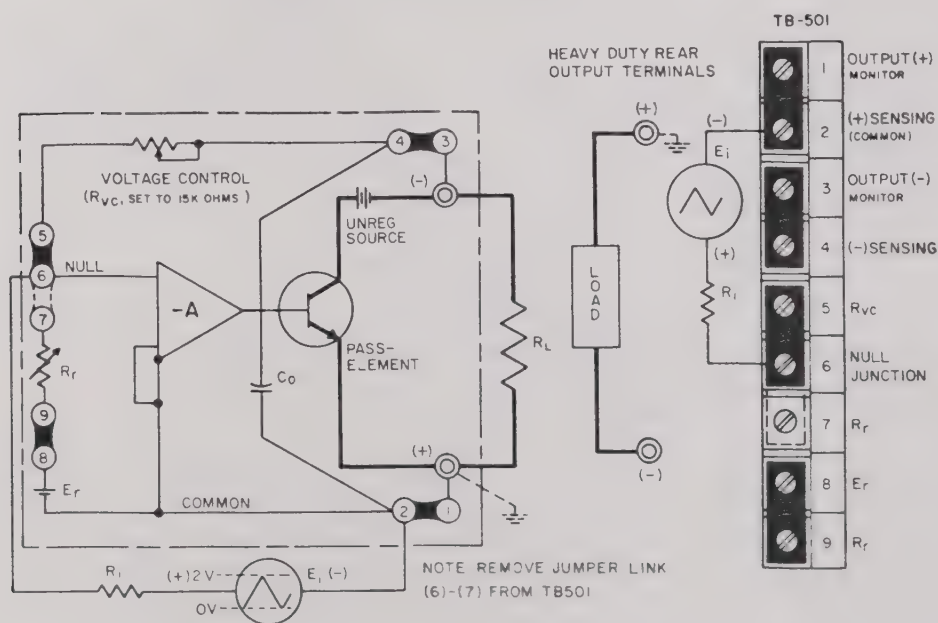

FIG. 3-8 THE POWER SUPPLY IN THE OPERATIONAL AMPLIFIER MODE
- 3-27 As seen from the expression (Eq.5), if the ratio R_{vc}/R_i (which represents the closed loop gain of the system) is held constant, E_o will vary linearly with E_i , the external programming voltage. The above expression (Eq.5) is seen to be similar to the operational amplifier transfer function in the inverting configuration. The voltage programmed power supply does in fact become a unipolar power amplifier with potentially very high power gain but with limited frequency response. (Refer to FIG. 3-8). The limited frequency response is largely due to the effect of the output capacitor (C_o) acting as a low-pass filter and preventing the output voltage (E_o) from varying rapidly. The output voltage may be varied over the full range, bounded on the high end by the maximum rated value. A practical example to illustrate component selection will be given below.
- 3-28 Example: A power supply with a rated maximum output voltage of 15 volts is to be voltage programmed over its full range (0 to 15V) by a triangular, positive increasing source with a peak output voltage (E_i) of 2 volts, and able to deliver at least 1 mA control current. Since the required voltage gain is: $E_o/E_i = 15/2 = 7.5$, the ratio R_{vc}/R_i must also equal 7.5. If the internal voltage control is retained, in this case, since $R_{vc} = 15 \text{ K ohms}$, R_i must equal $15 \text{ K}/7.5 = 2 \text{ K ohms}$. FIG. 3-8 shows the Power Supply as an operational amplifier and the necessary rear barrier connections for this mode of operation.